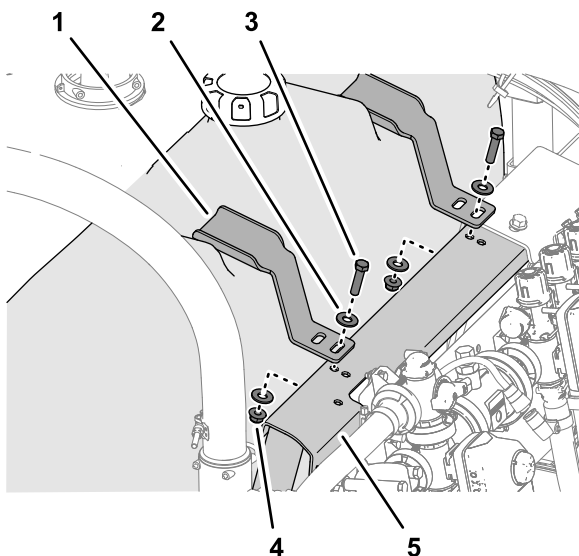

Figure 16
1. Align the hold-down bracket with the reliefs molded into the top of the rinse tank (Figure 16)
2. Align the slot in the hold-down bracket with the hole in the valve mount (Figure 16).
3. Loosely assemble the hold down to the valve mount (Figure 16) with a bolt (3/8 x 1-1/2 inches), 2 washers (3/8 inch), and a flange locknut (3/8 inch) that you removed in Removing the Rinse Tank (page 5).
4. Repeat steps 1 through 3 for the other hold down at the other recess in the rinse tank (Figure 16).